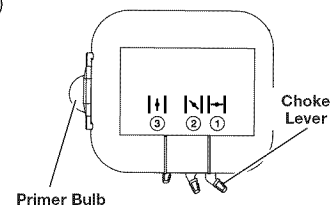

Fig. 9
3. Fully press and release the primer bulb 10 times, slowly. Some amount of fuel should be visible in the primer bulb (Fig. 9). If fuel cannot be seen in the bulb, press and release the bulb until fuel is visible.
4. Move the choke lever to **Position 1** (Fig. 9).
6. **Do not squeeze the trigger.** Move the choke lever to **Position 2** (Fig. 9).
9. Continue to squeeze the trigger. Move the choke lever to **Position 3** (Fig. 9) and continue warming the engine for an additional 60 seconds. The unit may be used during this time.
7. **Do not squeeze the trigger.** Move the choke lever to **Position 2** (Fig. 9).
11. Continue to squeeze the trigger. Move the choke lever to **Position 3** (Fig. 9) and continue warming the engine for an additional 60 seconds. The unit may be used during this time.